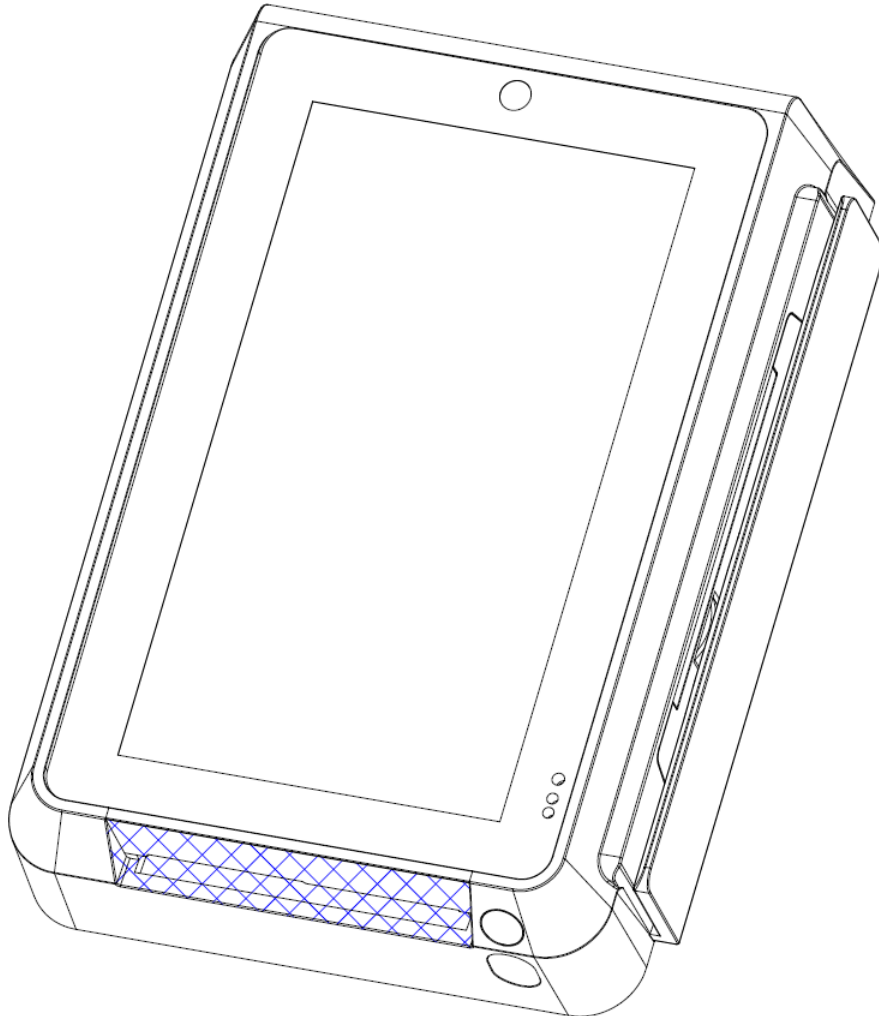

Figure 22: smart card reader (outlined in blue)
- **card reader use:** Slide the card through the card reader slot from top to bottom or from bottom to top with the magnetic strip oriented towards the body of the device (Figure 22: smart card reader (outlined in blue)). Make sure that the card is fully inserted into the card reader while scanning the card.